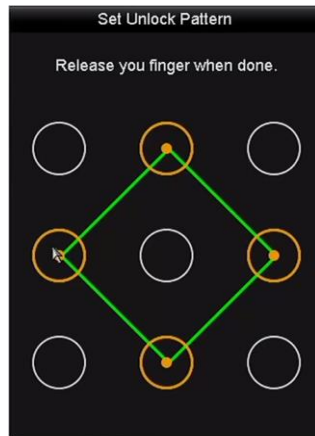

Figure 2-8 Draw the Pattern
Step 1 Right click the mouse on the screen and select the menu to enter the interface as shown in Figure 2.8.